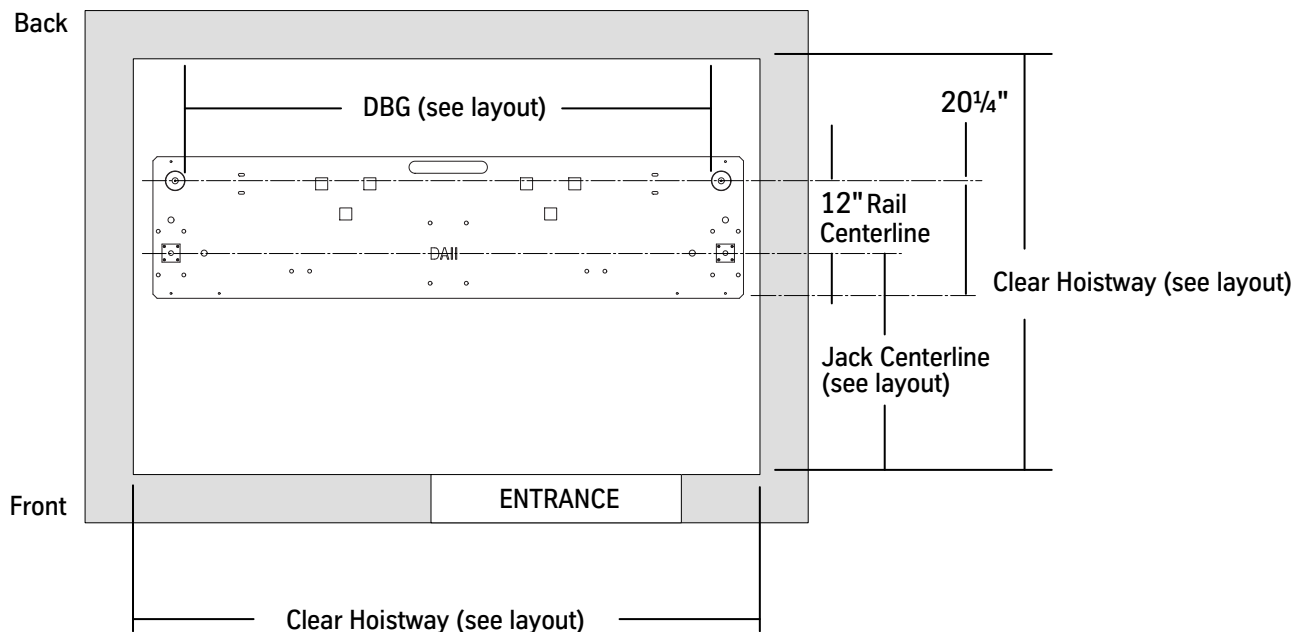

Figure 1 - Hoistway Layout
3. Place the pit template on the pit floor, and position it per the layout. See Figure 1.